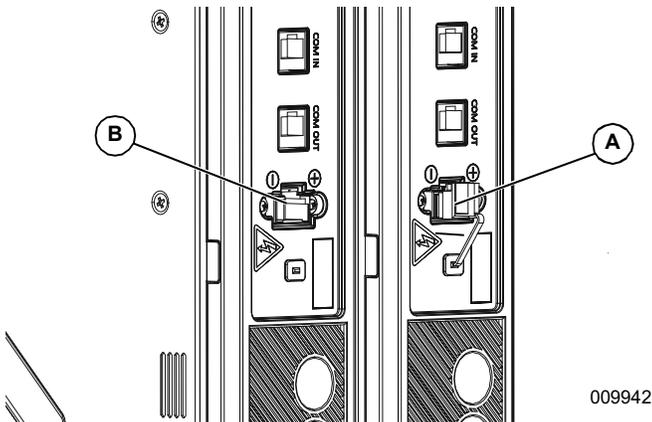

Figure 4-27. Power Cable Ports
1. See Figure 4-27. Remove gray rubber cap (A) from each module power port.
2. Plug black power cable connectors into battery module power ports (B).